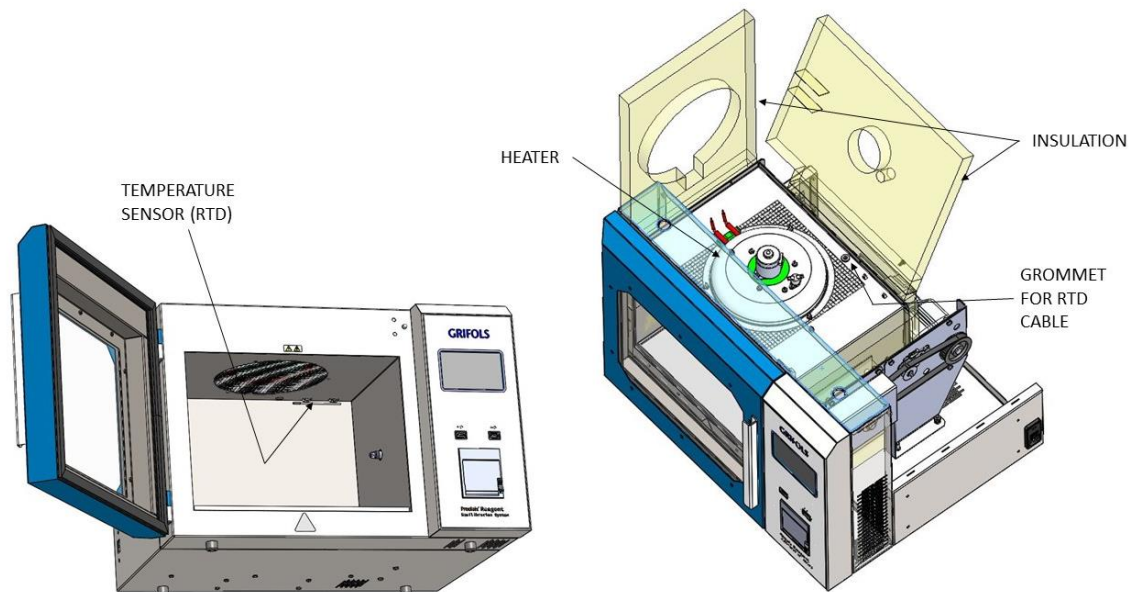

Figure 5.1. Heater Access
- A layer of insulation is folded over top of chamber and tucked in beneath overhang of enclosure front end. Retract this layer and allow it to stand upright to expose the layer beneath. (Figure 5.1)
The Temperature Sensor is an RTD probe located inside the chamber. (Figure 5.1)